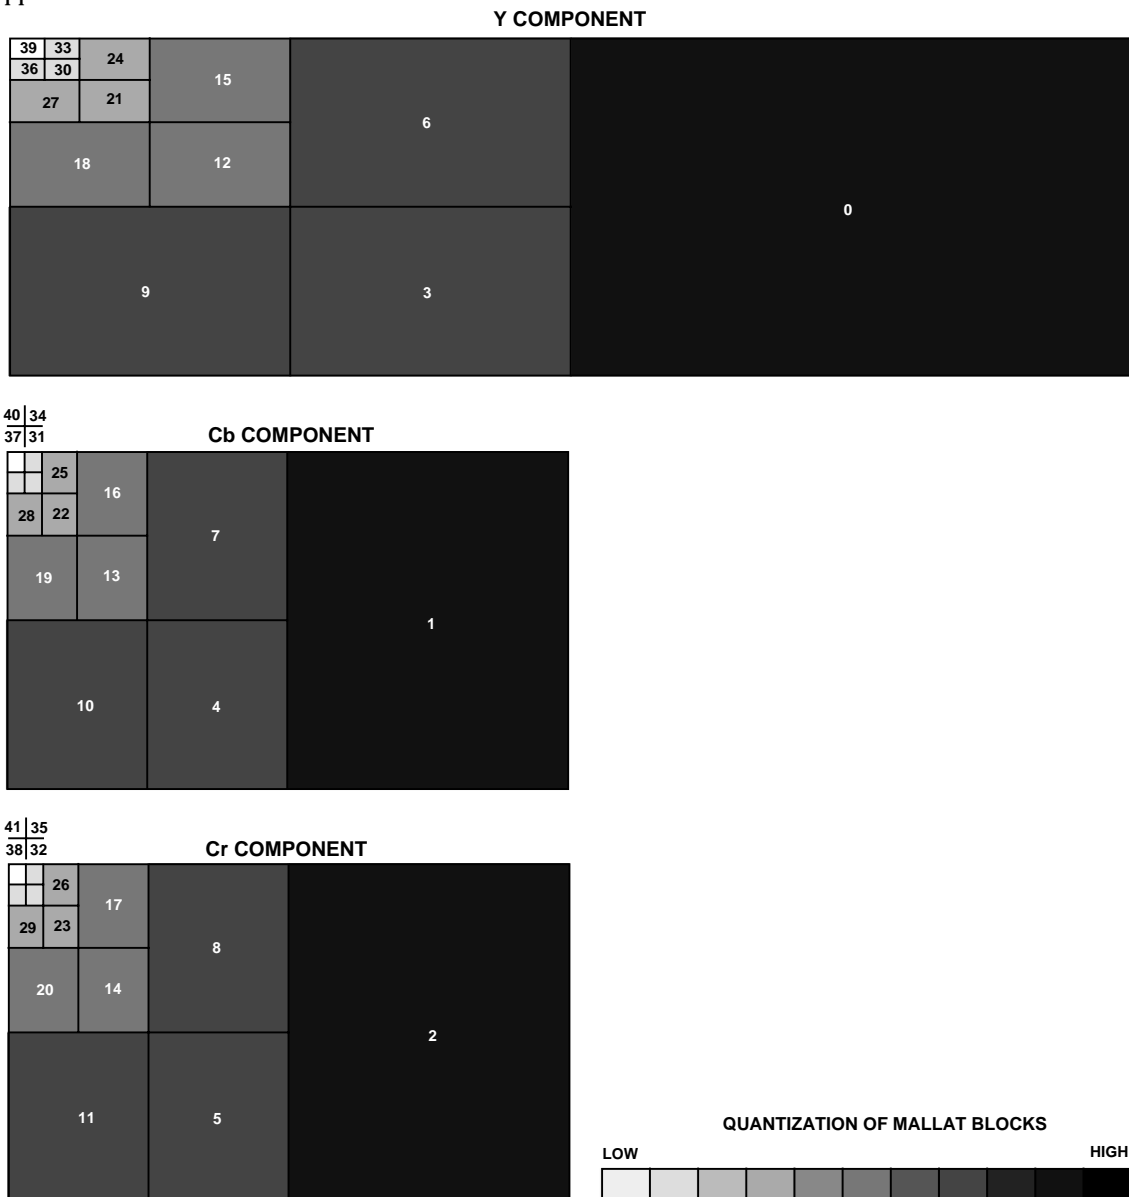

Figure 8. Typical Quantization of Mallat Data Blocks (Graphed)
Figure 8 shows how a typical quantization pattern applies over Mallat block data. The high frequency blocks receive much larger quantization (appear darker) than the low frequency blocks (appear lighter). Looking at this figure, one sees some key point concerning quantization: (1) quantization relates directly to frequency in Mallat block data and (2) levels of quantization range widely from high to low frequency block. (Note that the fill is based on a log formula.) The relation between actual ADV601LC bin width factors and the Mallat block fill pattern in Figure 8 appears in Table II.